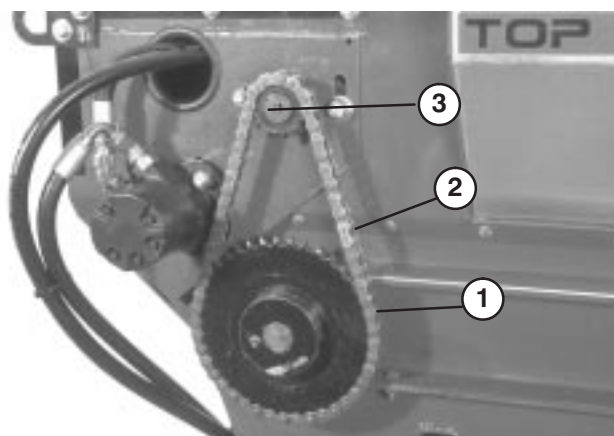

Figure 3
2. Remove master link from chain and remove chain from small sprocket (Fig. 3).